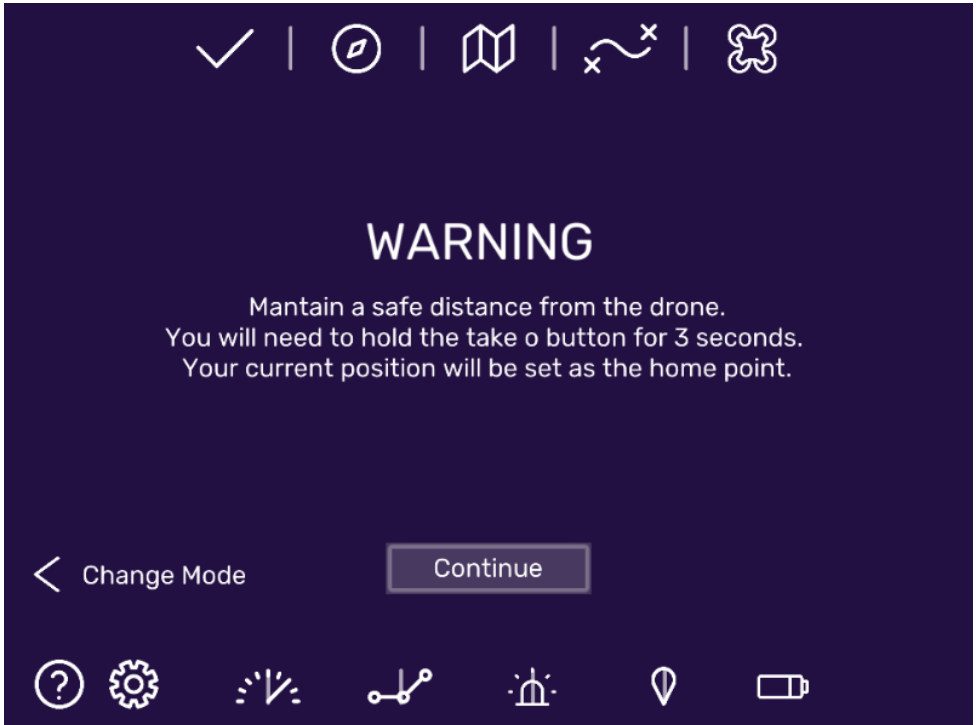

Figure 16. Window warning the user of take-off to start the scanning procedure
- Hold this down for at least three seconds to start scanning the surroundings. The drone will show the take-off button. Press this and the drone will rise from its position until it arrives at the desired default height, as set on the **height indicator** in the top right-hand corner, at which point a warning window will appear (see Figure 16). Start moving the drone to perform a scan of the surrounding environment. The drone is now in scan mode.
When the drone lands, i.e. when the scanning session is finished or the batteries are empty, the window in Figure 16 appears once again. The user can plan another flight by pressing the Change Mode button at the lower left, which takes the user to the window in Figure 4b. Press the Flight Plan button to enter the next procedure.